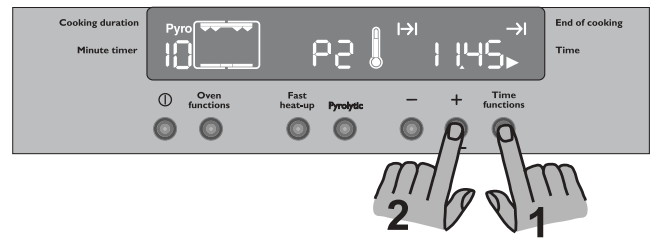

Fig. 24
3. Once you have chosen the desired pyrolytic function, the “Pyro” writing will flash in the display waiting for confirmation to start the pyrolytic cleaning function. At this time, push the Time functions button until the “End of Cooking” symbol  and the arrow symbol  will flash (Fig. 24). The control panel will display the end of the cleaning cycle (that is, the actual time + cooking duration time). Push “—” or “+” buttons to select the required end of cycle time (Fig. 24). After a few seconds, the “Pyro” writing and the symbol  will stop flashing, the acoustic signal will stop while the Cooking Duration symbol  will flash until the pyrolytic cleaning cycle start.